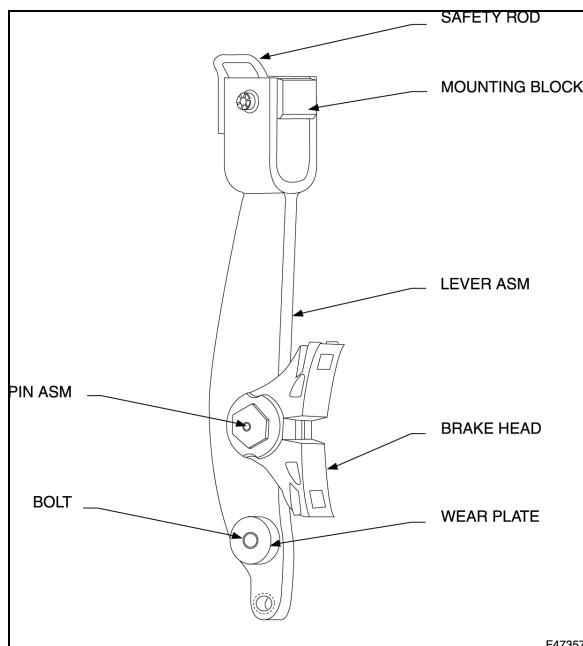

Figure 58 – Brake Lever Assembly – Dead
- Assemble Brake Lever Assembly-Dead using Figure 58 as a guide.